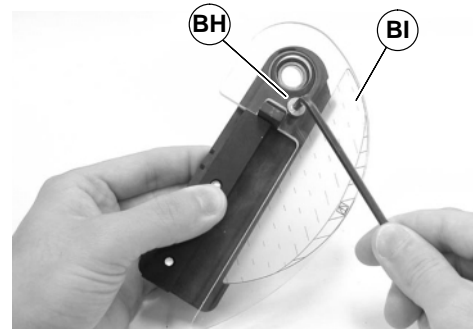

Figure 41
- For drive end head plates, remove screw (BH of Figure 41) and remove belt sag guard (BI).